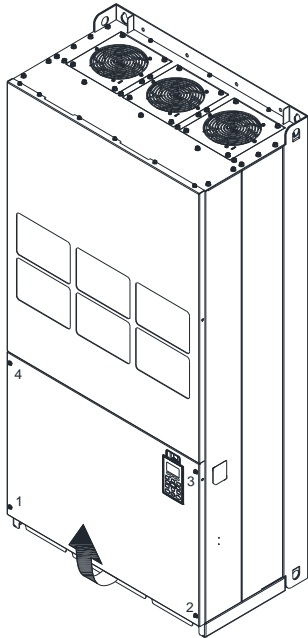

Figure 1
1. Loosen the screw 1–4 and remove the top cover 2. (figure 1). Screw torque: 14–16 kg-cm / [12.2–13.9 lb-in.] / [1.4–1.6 Nm]